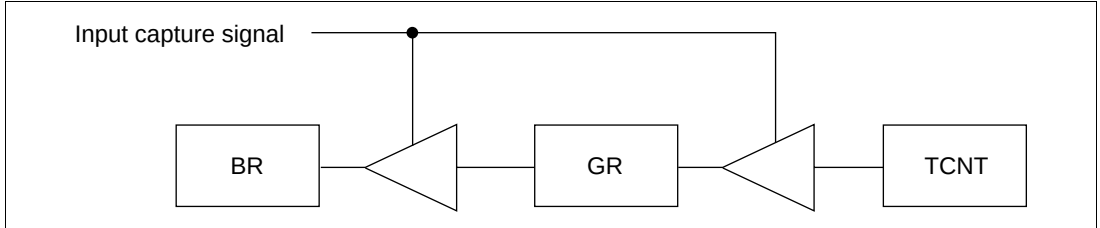

**Figure 10.46 Input Capture Buffer Operation**
**GR is an Input Capture Register:** TCNT values are transferred to GR when input capture occurs and the value previously stored in GR is transferred to BR. This operation is illustrated in figure 10.46.